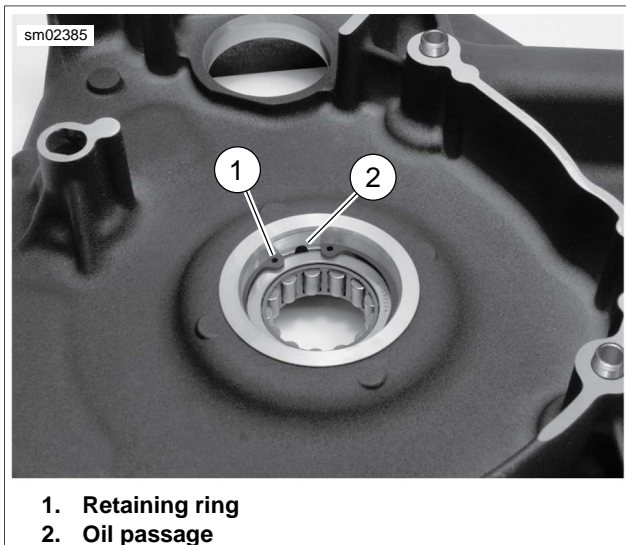

Figure 6-20. Retaining Ring Orientation
6. See Figure 6-20. Retaining ring (1) must be oriented as shown to prevent blocking of oil passage (2). Install retaining ring to lock position of bearing in bore. Verify that the ring is fully seated in the groove and is in proper orientation.